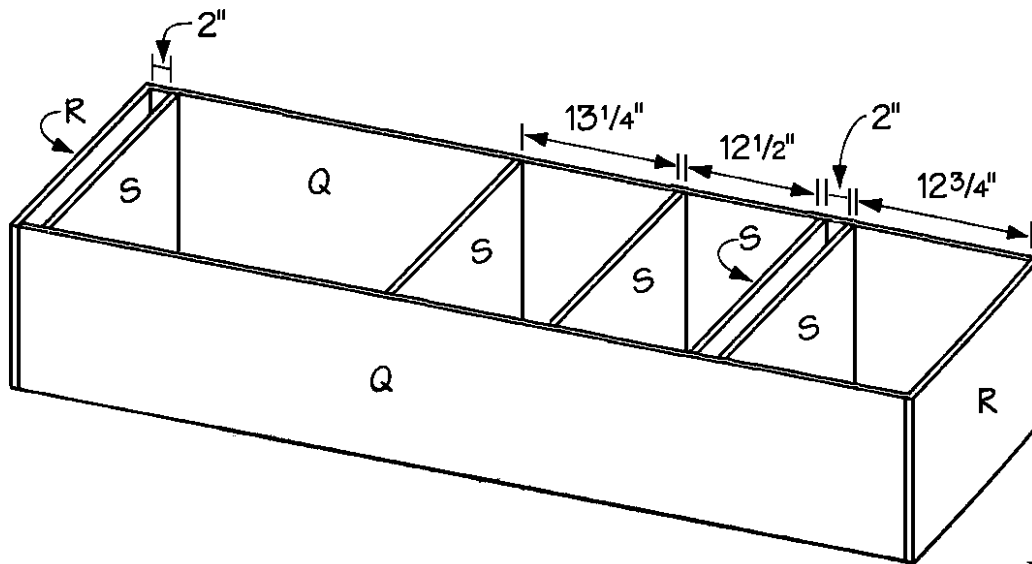

Figure 12
1. Cut two sides (Q) from 3/4-inch plywood, each measuring 16-1/4 x 78-1/2 inches.
2. Cut two top/bottoms (R) from 3/4-inch plywood, each measuring 16 x 30 inches.
3. Place the two sides (Q) on edge on a level surface, 28-1/2 inches apart. Fit the top/bottoms (R) over the ends of the sides (Q) to form a rectangle measuring 30 x 80 inches, as shown in *Figure 12*. Apply glue to the meeting surfaces and screw through the top/bottoms (R) into the edges of the sides (Q). Use 1-1/2-inch screws spaced about every 5 inches.
4. Cut five shelves (S) from 3/4-inch plywood, each measuring 16 x 28-1/2 inches.
5. Place the first shelf (S) 12-3/4 inches below the top (R). Screw through the sides (Q) into the edges of the shelf (S), as shown in *Figure 12*. Use 1-1/2-inch screws spaced about every 5 inches.
6. Repeat the procedure in Step 5 to attach the second shelf (S) 2 inches below the first one.
7. Attach the third shelf (S) 12-1/2 inches below the second one.
8. Attach the fourth shelf (S) 13-1/4 inches below the third one.
9. Attach the fifth shelf (S) 2 inches above the bottom (R).